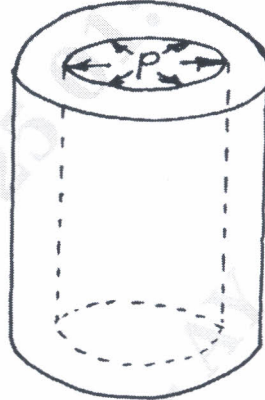

Fig Q9(b)
- b. For a long cylinder of inside diameter 8 cm and outside diameter 12 cm snugly fits in a hole over its full length as shown in Fig Q9(b). The cylinder is subjected to an internal pressure of 5 MPa. Using two element model over a length of 1 cm, evaluate nodal displacement and element stresses. Take  $E = 20 \times 10^6 \text{ N/cm}^2$  and  $\mu = 0.3$ .